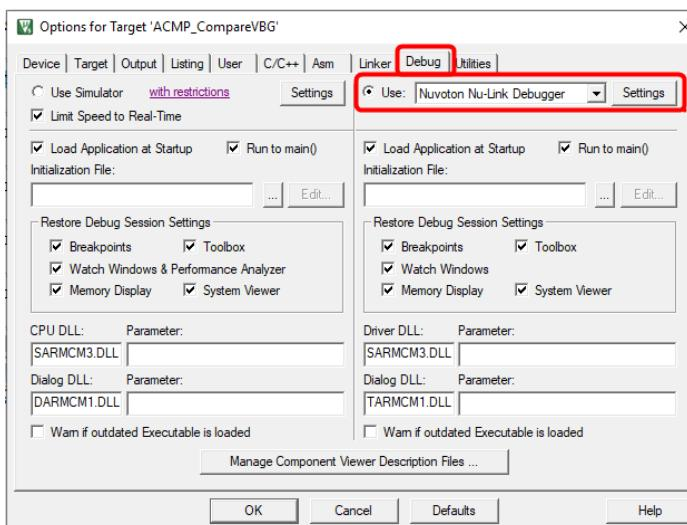

Figure 4-10 Keil MDK Debugger Selection
Step 4: Invoke **Project → Options for Target → Debug**, and make sure the **Use: 「Nuvoton Nu-Link M0 Debugger」** option is checked, as shown in Figure 4-10.